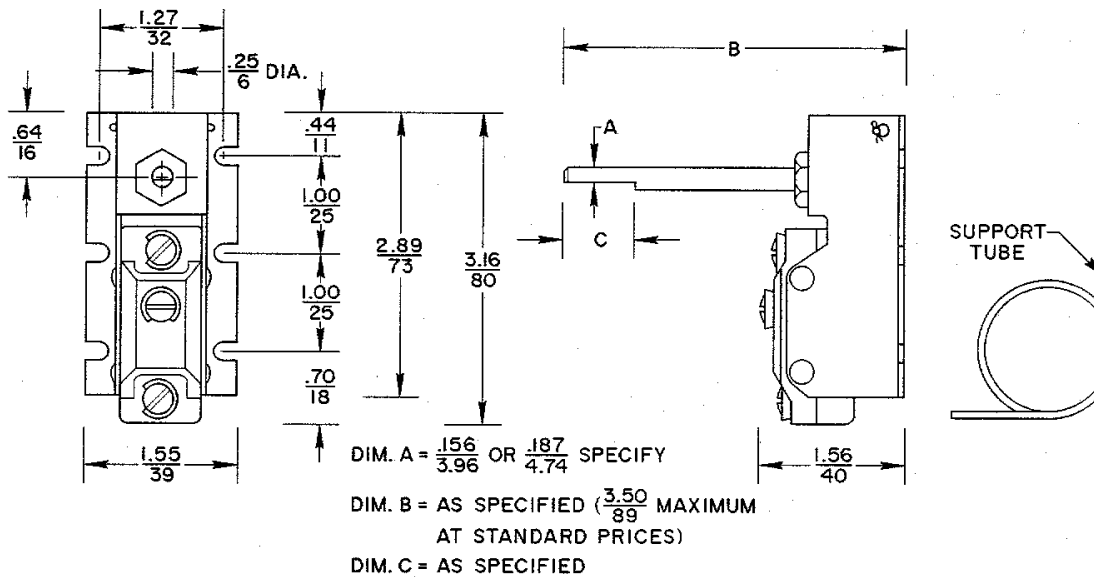

Fig. 5 — Dimension drawing showing side and front views ($\frac{1}{4}$ " [6 mm] shaft adjustment shown).
1. 1/4 in. (6.4 mm) shaft with 0.156 in. (3.96 mm) or 0.187 in. (4.75 mm) milled flat for buyers' knobs (Fig. 5).
Standard back mounting plate illustrated in dimension drawing (Fig. 5) is regularly supplied. Front mounting and special brackets to customers' specifications which attach to this plate are available at extra cost.